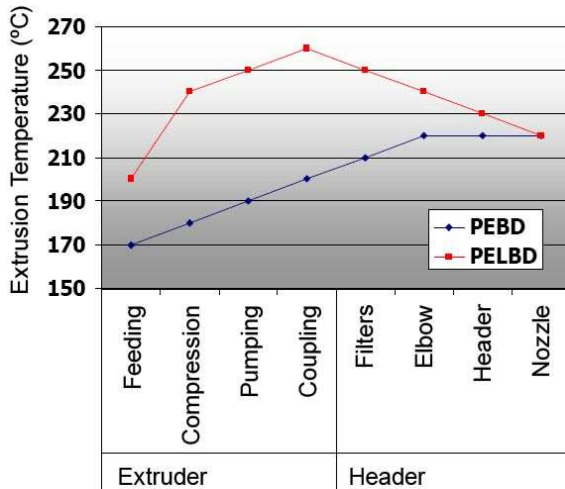

Figure 6. Suggested extrusion temperature profile comparison for mixtures rich in linear or with low density.
- Use a greater extrusion temperature and parabolic profiles which benefit the reduction of power consumption, and a low release nozzle temperature that best controls the instability tendency of linear and mixtures with a high content of these (see Figure 6).